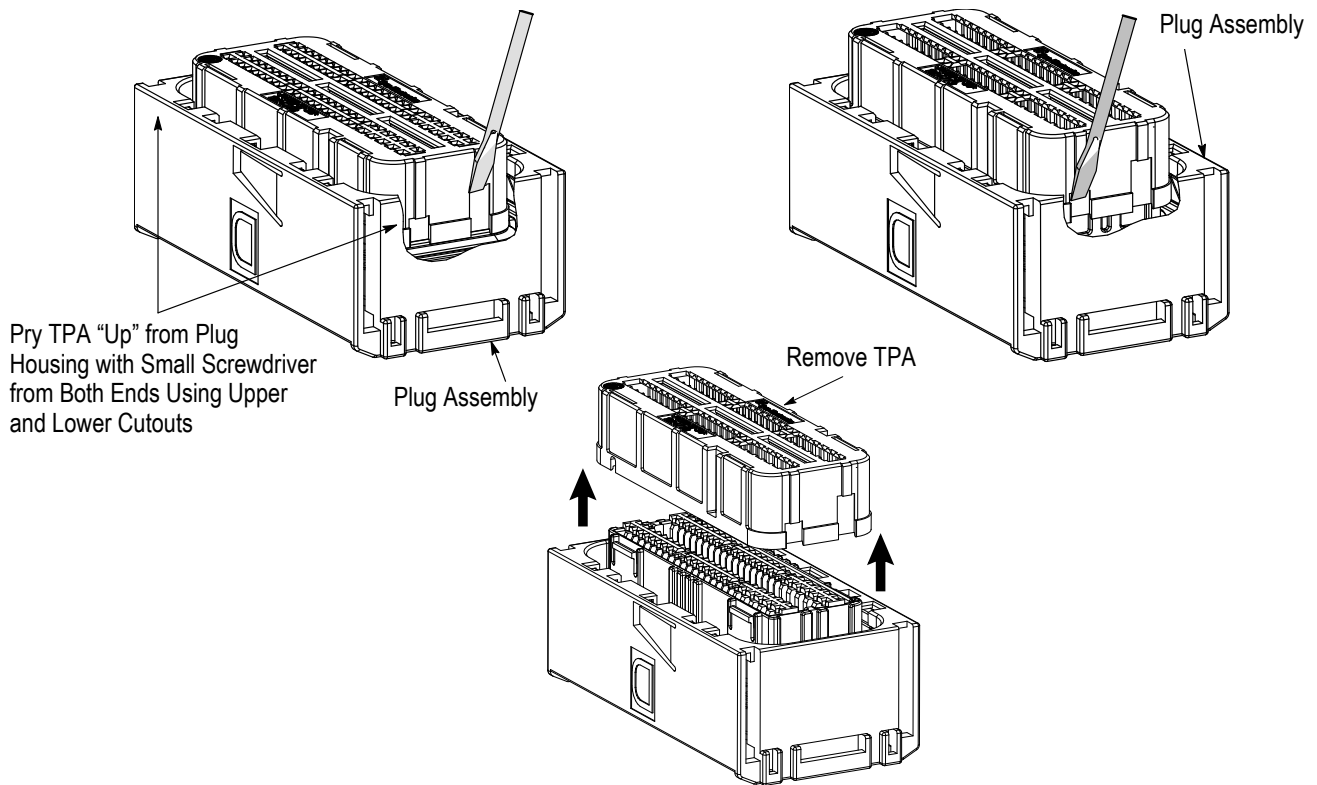

Figure 9
3. Remove the TPA from the plug assembly by placing a small screwdriver in the ends and rotating to pry up the TPA from the plug assembly. See Figure 9.